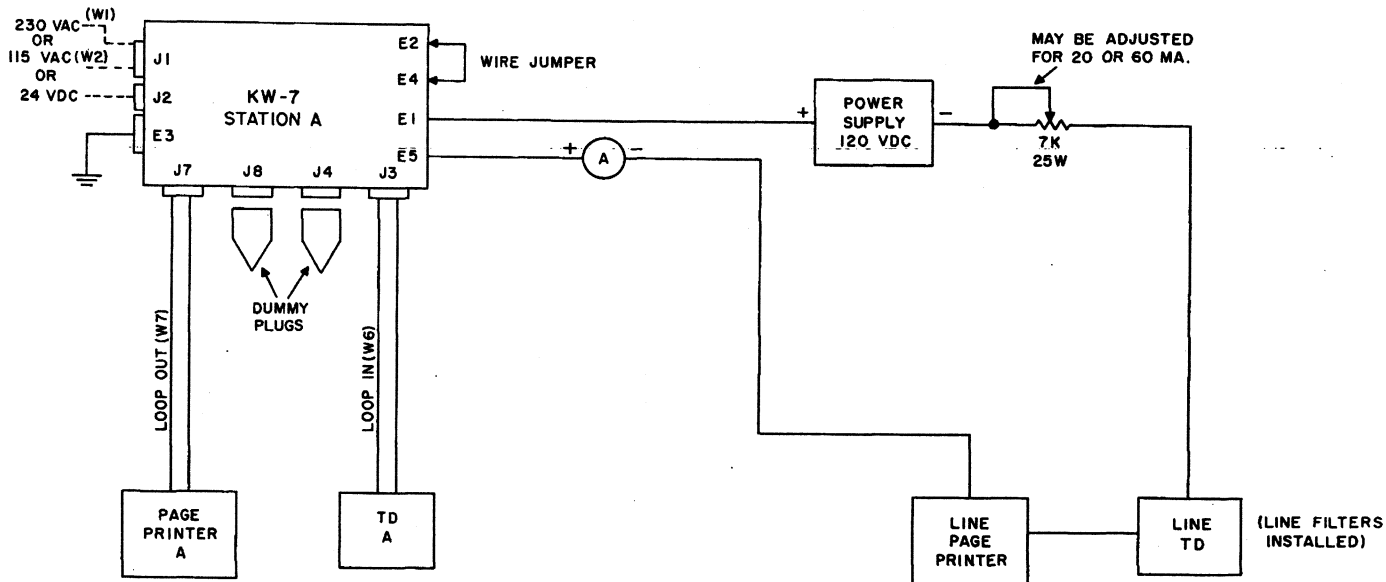

Figure 2-12.—Plain Async Mode Test Connections.
- (1) Perform the wiring connections indicated on figure 2-12.
- (2) Place the STATION A KW-7 LOOP-OUT INHIBIT/ALLOW switch in the INHIBIT position.
- (3) Place the POWER ON-OFF switch in both STATION A KW-7 and STATION B KW-7 in the ON position.
- (4) Place the LOOP ADAPTER 2 $\phi$ -6 $\phi$  switch in the 6 $\phi$  position.
- (5) Place the PCR switches for both STATION A KW-7 and STATION B KW-7 in the CIPHER position.
- (6) Activate the loop circuit 12 $\phi$ -volt DC Power Supply and measure the current. The loop current should read 6 $\phi$  milliamperes (the 7K potentiometer should be adjusted if this current is not read).